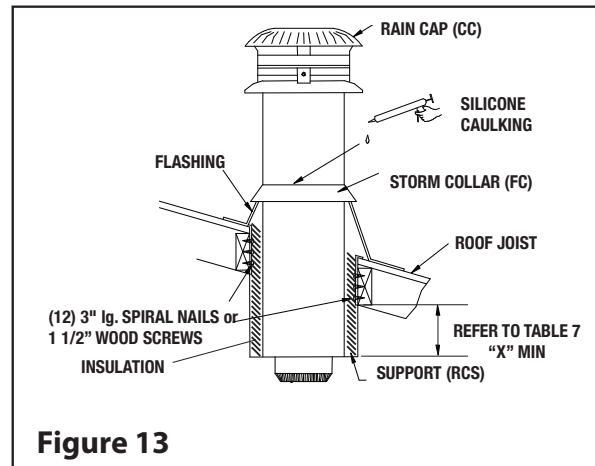

Figure 13
Step 3: Use a level to ensure the support is vertical. If the support extends above the roof, cut it flush with the top of the roof. Attach the support to the framed opening using (12)-3" spiral nails or #8 x 1 1/2" wood screws (see Figure 13).